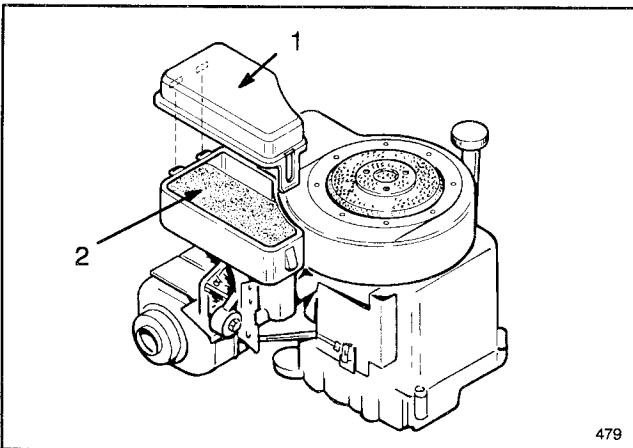

Figure 9
2. Unsnap and lift air cleaner cover off carburetor (Fig. 9).
3. Remove foam element (Fig. 9). Examine element for dirt or discoloration and clean if necessary.